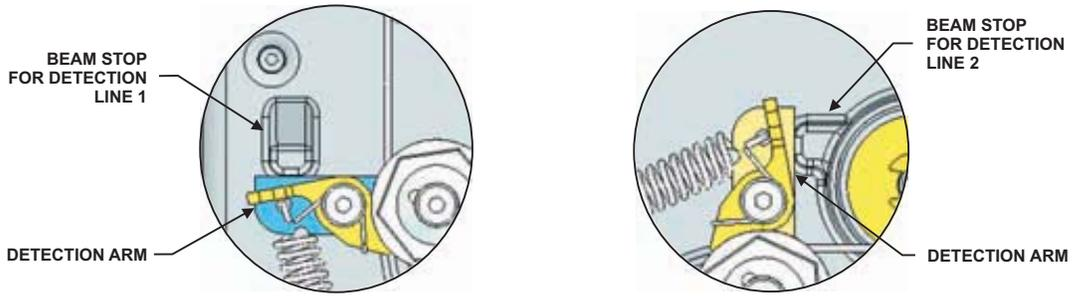

Figure 4-85. Detection Beam Stops
3. Using a 7/8-inch socket (or equivalent), carefully ratchet up the slack in the control cable lines (see Figure 4-85). Tighten the line until the beam reaches the stop. **Do not overtighten.**